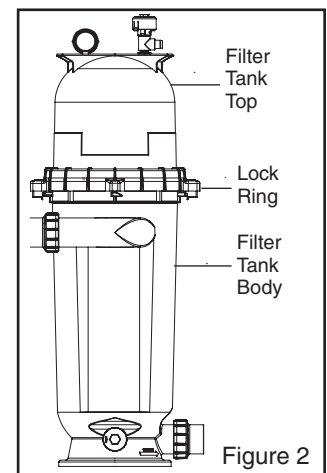

Figure 2
2. Be certain the O-ring is in position in the lower tank half. Place the filter lid over the lower tank half, making sure it is fully and firmly seated on the tank half, see Figure 2.